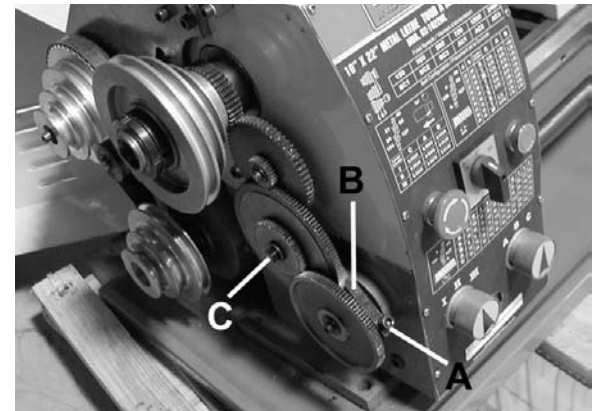

FIGURE 16
Before changing gears, determine the thread pitch desired and look at which gear configuration is needed. See Thread charts as reference. Before trying to remove a gear, all the gears need to be distanced from each in order to be removed. To distance the gears from each other, unscrew cap screw (A) Fig.16 which secures the pivot bracket (B). This will allow you to lower the center gear assembly. Now unscrew special lock screw (C) and slide the center gears off the pivot bracket (B). Now all the gears are distanced and ready to be changed.
Once the change gears are in place, slide middle gears (E & F) back onto the pivot bracket until it snug against the bottom gear (C), secure with special lock screw (H) and make sure the retaining plate (G) is in place before securing middle gears. Raise the middle gears assembly upwards until it is snug with the top gear (A) and secure pivot bracket cap screw (A & B) Fig.16. Close the side cover and lock it using the same lock knob unscrewed previously.